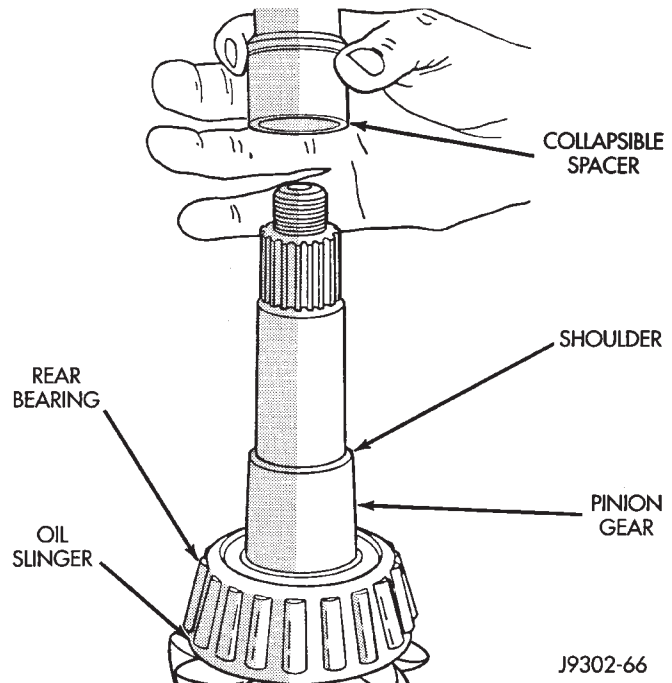
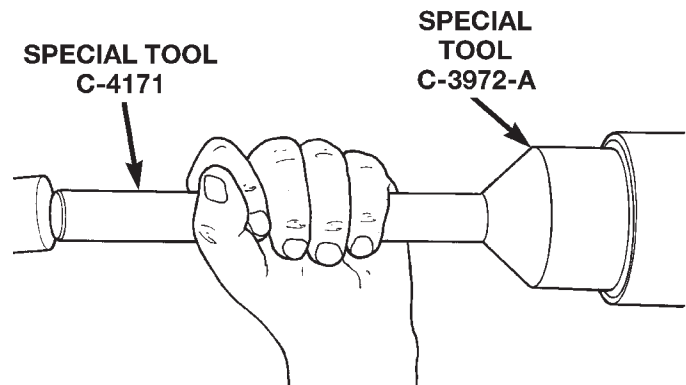

Fig. 13 Collapsible Preload Spacer
Fig. 14 Pinion Seal Installation
- (1) Install a new collapsible preload spacer on pinion shaft (Fig. 13).
- (2) If pinion gear was removed, install pinion gear in housing.
- (3) Install pinion front bearing, if necessary.
- (4) Apply a light coating of gear lubricant on the lip of pinion seal. Install seal with Installer C-3972-A and Handle C-4171 (Fig. 14), if necessary.